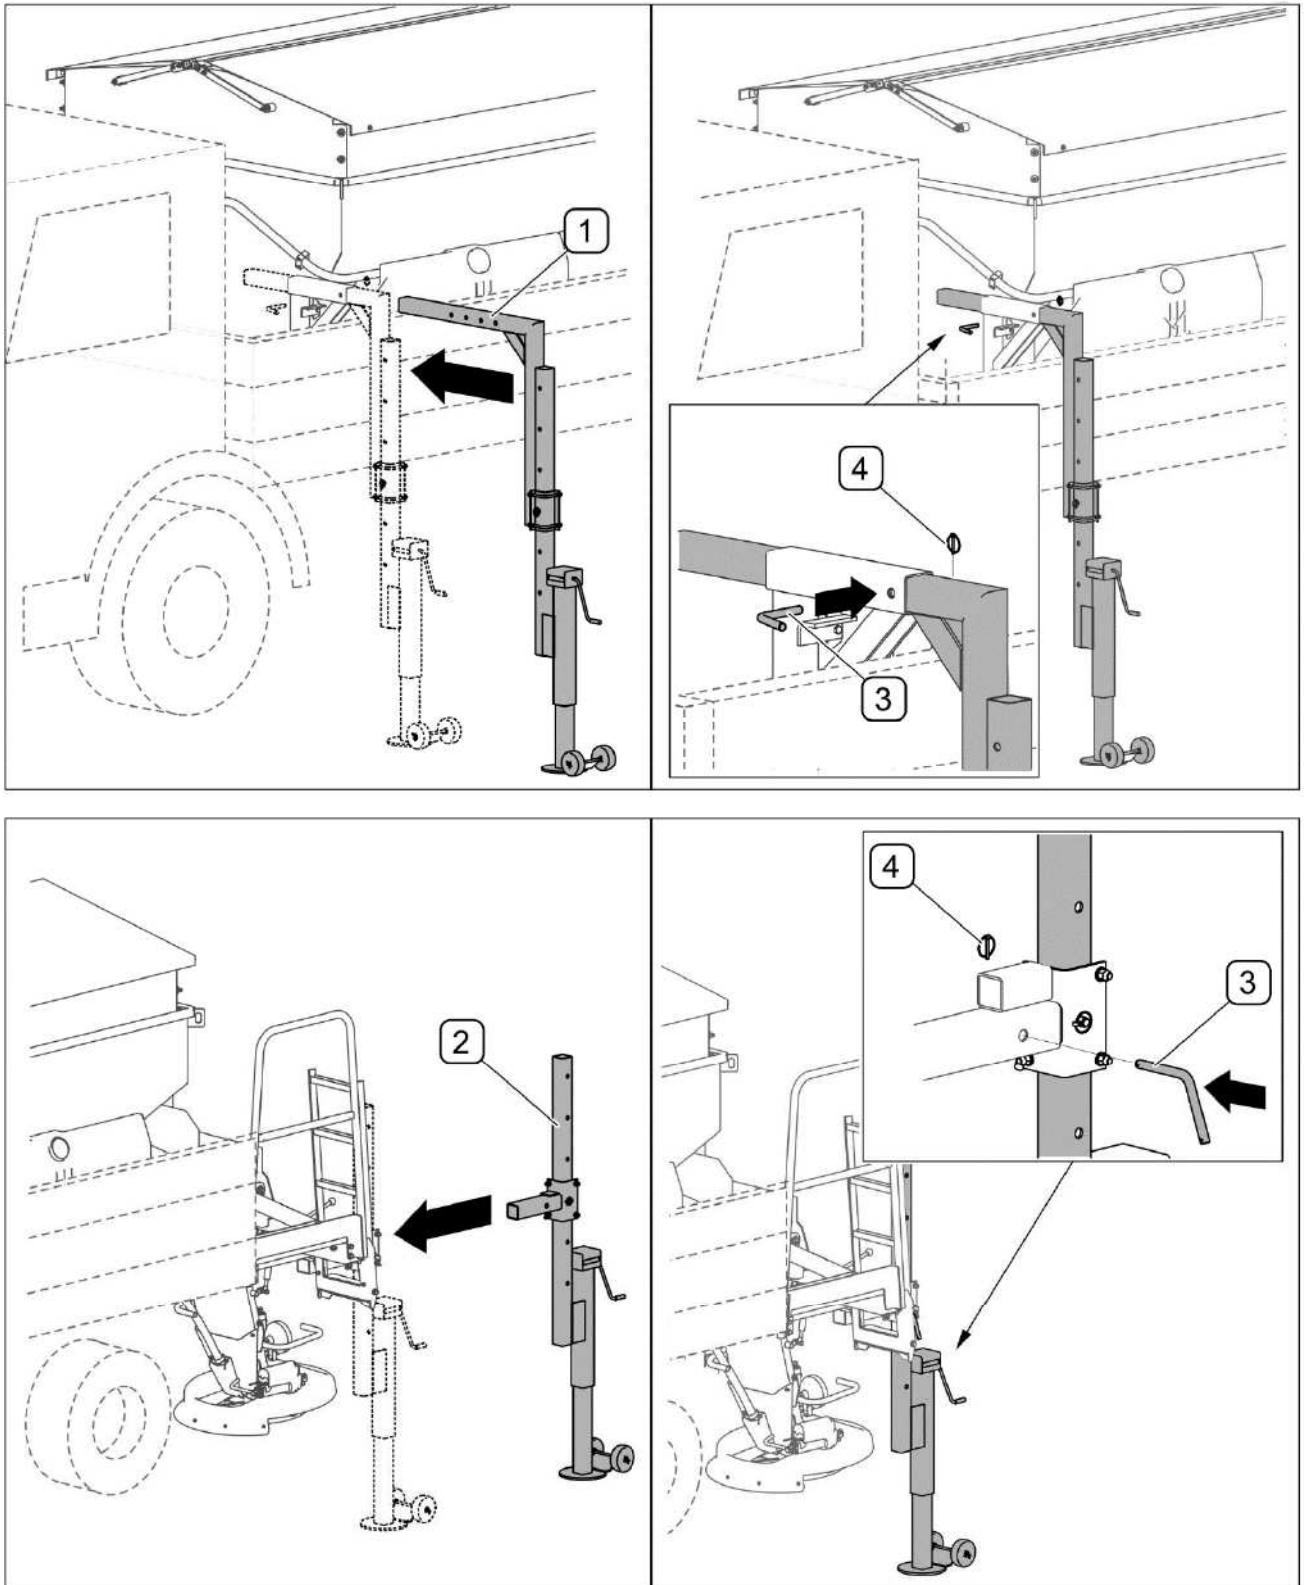

FIG. 4.36 Installing the parking stands
- Install front (1) and rear (2) parking stands (FIG. 4.36) and lock them using (2) linchpins (3) and cotter pins (4).